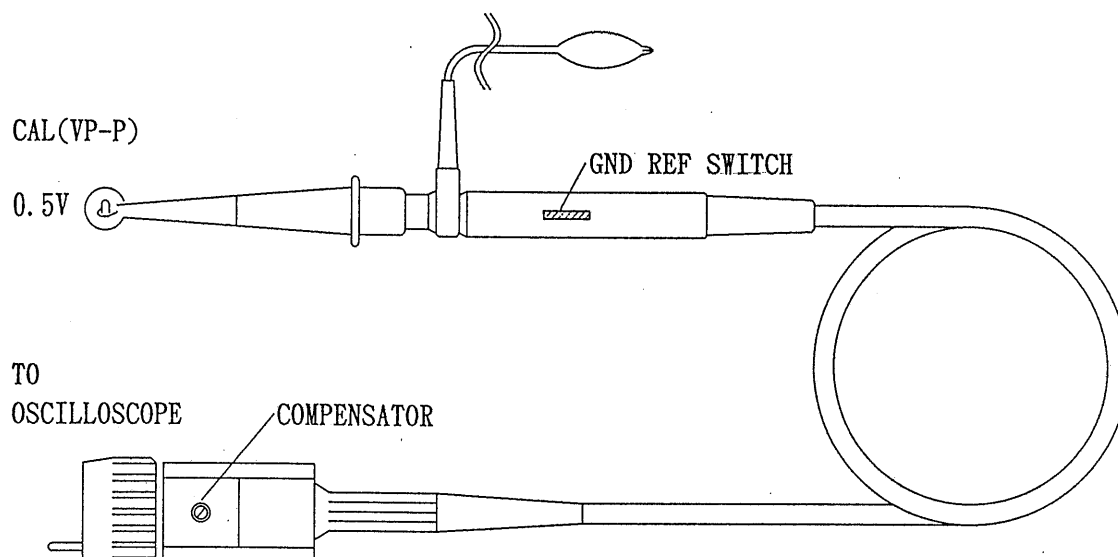
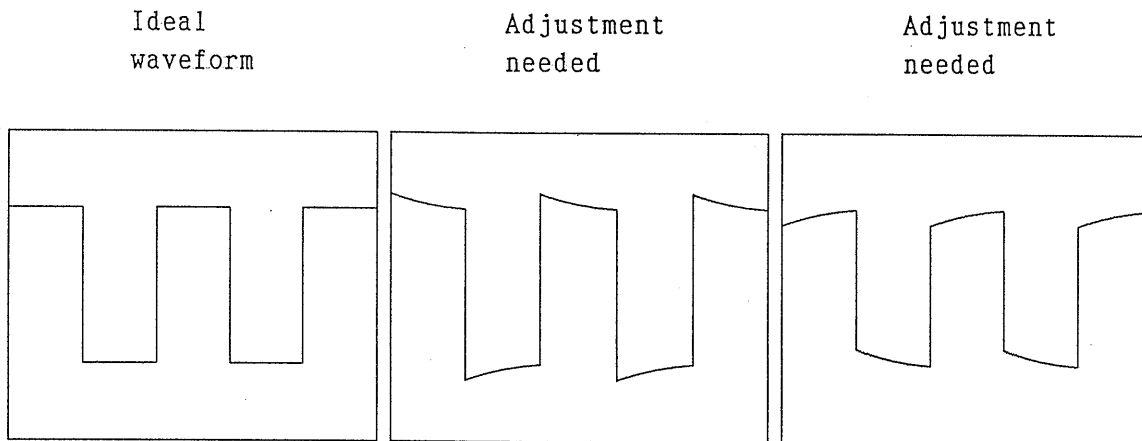

Figure 4.5
Figure 4-6
As you press the GND REF switch (see Figure 4-5), the probe output is shorted to the GND line allowing you to identify the ground reference level without requiring to turn the CPLG switch of the oscilloscope to the GND position.
Connect one of the probes to the CH1 INPUT terminal ⑧ and set the VOLTS/DIV switch ⑥ at 0.1 V. Connect the probe tip to the CAL terminal. Observing the waveform displayed on the CRT, adjust the compensator (see Figure 4-5) with a screwdriver so that an ideal waveform is obtained (see Figure 4-6).